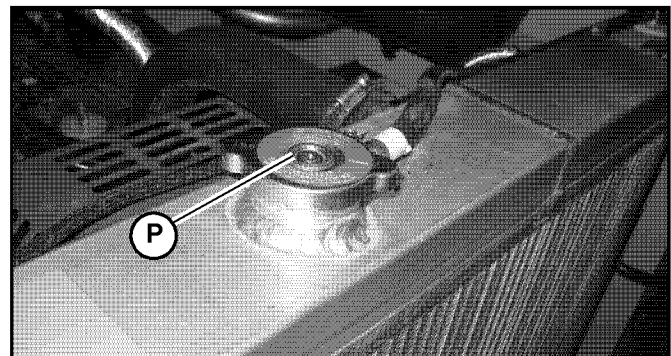

Fig. 123 – Radiator Cap
5. Slowly loosen radiator cap (P, Fig. 123) and allow pressure to escape. Remove cap.